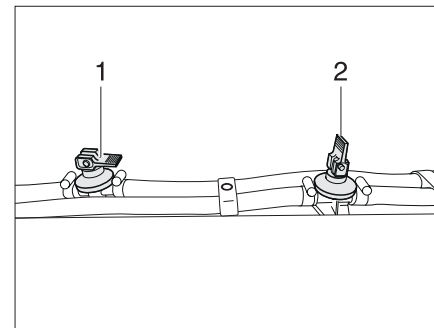

Fig. 129 Drain cock
- ▶ Close all drain cocks. Position the rocking lever (Fig. 129,1) horizontally.